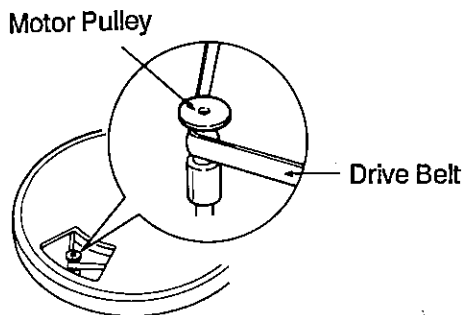

Fig. 17
5. Place the drive belt onto the motor pulley. Be sure not to twist the belt (Fig. 17).